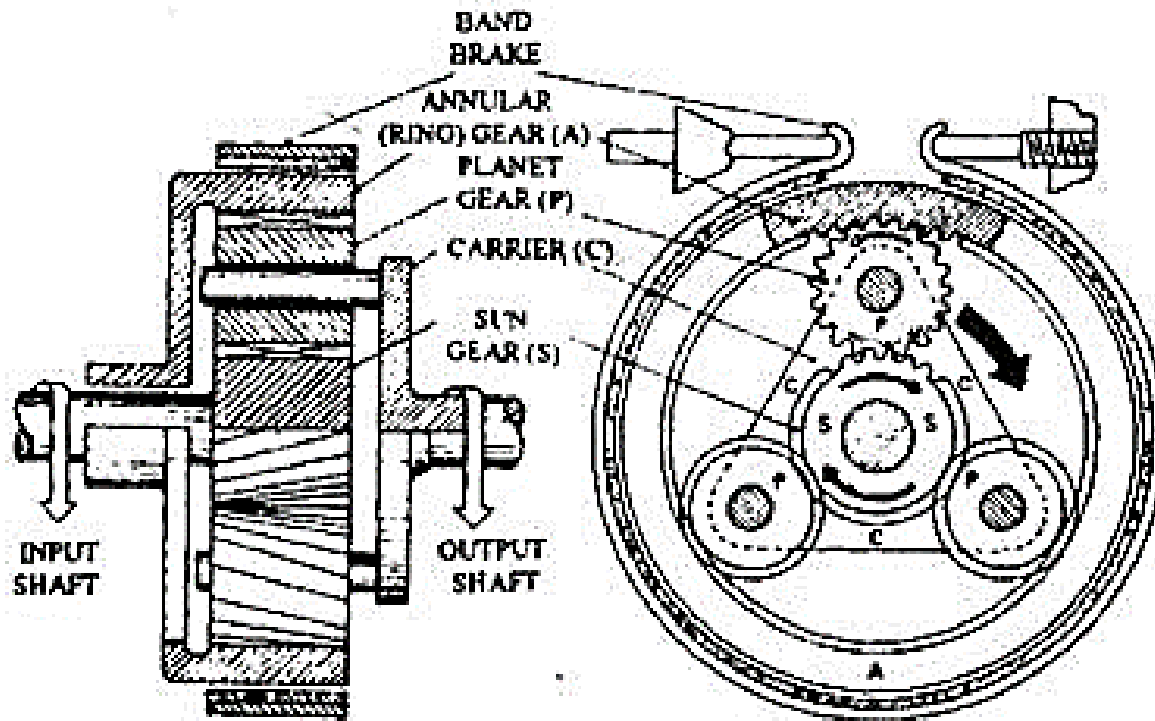

Fig. 25.24. Simple epicyclic gear train.
- The layout of a simple single-stage epicyclic gear train is shown in Fig. 25.24. Epicyclic gears are very widely used in automatic transmission because,
- An epicyclic single-stage gear train consists of an internally toothed annular (ring) A (Fig. 25.24) with a band brake encircling it.